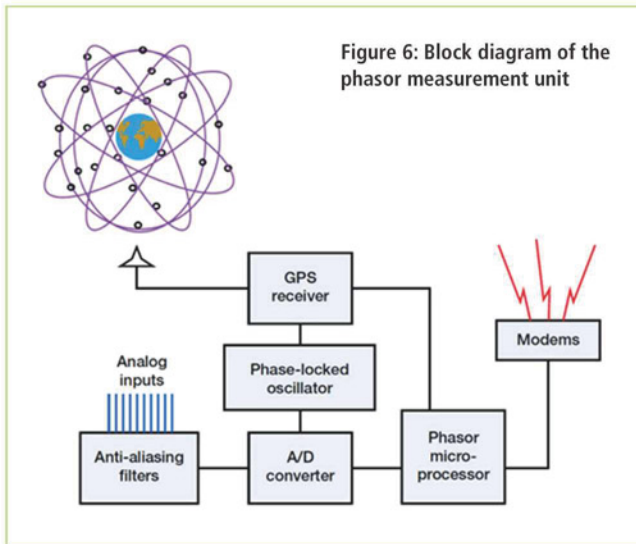

Figure 6: Block diagram of the phasor measurement unit
- **Phasor measurement unit (PMU):** It calculates voltage and current phasors based on digital sampling of AC waveforms and a precise time signal provided by a global positioning system (GPS) clock. A PMU provides output data in a standard protocol at rates of at least 30 samples per second for communication to remote locations. The block diagram of a phasor measurement unit is shown in Figure 6.